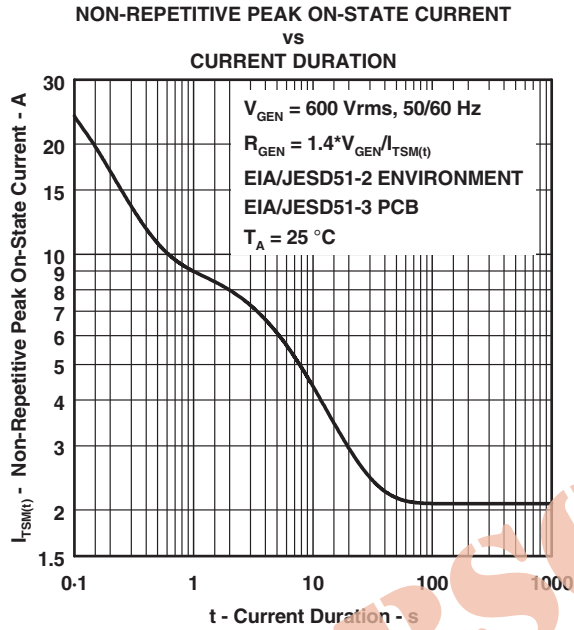

Figure 8.
5. EIA/JESD51-2 environment and EIA/JESD51-3 PCB with standard footprint dimensions connected with 5 A rated printed wiring track widths. See Figure 8 for the current ratings at other durations. Derate current values at $-0.61\%/\text{C}$ for ambient temperatures above 25°C
The protector can withstand currents applied for times not exceeding those shown in Figure 8. Currents that exceed these times must be terminated or reduced to avoid protector failure. Fuses, PTC (Positive Temperature Coefficient) resistors and fusible resistors are overcurrent protection devices which can be used to reduce the current flow. Protective fuses may range from a few hundred milliamperes to one ampere. In some cases, it may be necessary to add some extra series resistance to prevent the fuse from opening during impulse testing. The current versus time characteristic of the overcurrent protector must be below the line shown in Figure 8. In some cases there may be a further time limit imposed by the test standard (e.g. UL 1459 wiring simulator failure).